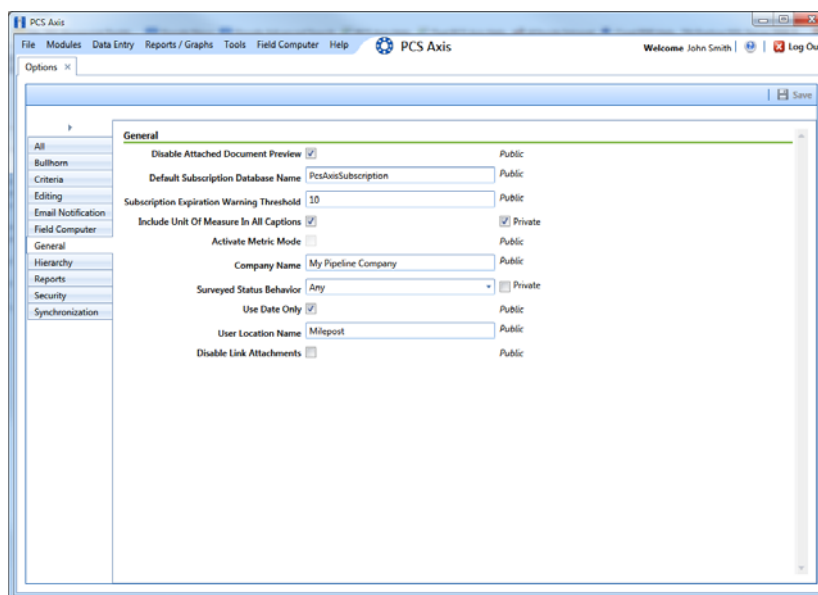

Figure 2-11. General Options
- 2 Click the **General** tab to open the *General* options page (Figure 2-11).
- 2 Click the **General** tab to open the *General* options page (Figure 2-11 on page 36).